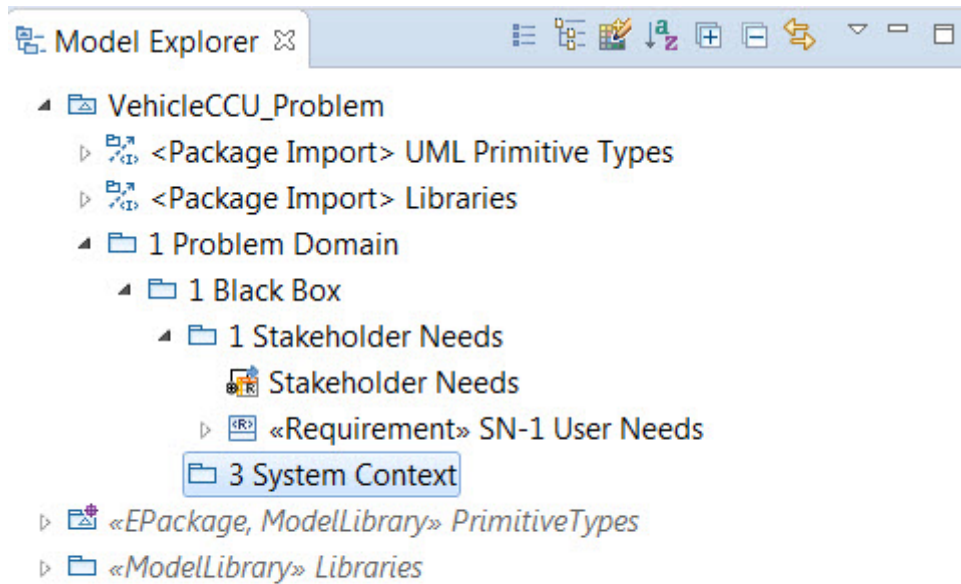

Figure 16: System Context package
1. Set up a new package under the *1 Black Box* package named *3 System Context* by Right-clicking on the *1 Black Box* package in the *Model Explorer* window and selecting **New Child** and then **Package**. Name the new package *3 System Context* (figure 16).